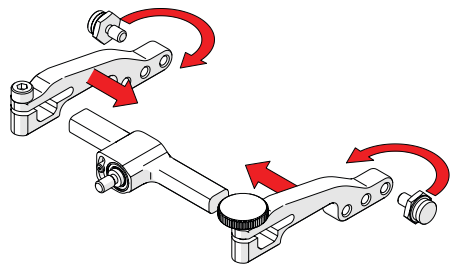

**Fig. 45** - Remove arms
2. Loosen the probe holder arm adjustment knob and arm clamp screw. Slide the arms from the yoke (*Fig. 45*).